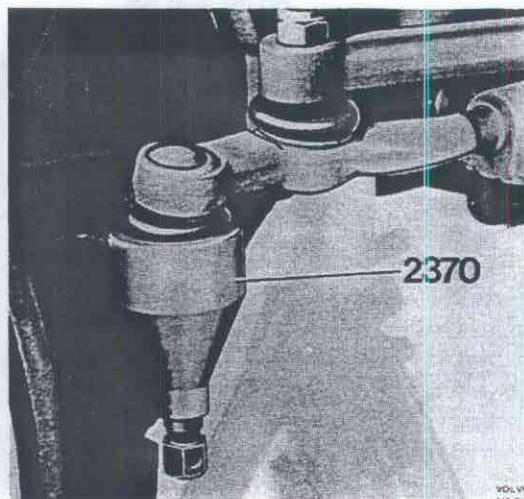

Fig. 46-75. Removing the steering rod
3. Drain the oil from the wheel carrier housing. Remove the steering joint from the steering rod with puller 2370, Fig. 46-75.